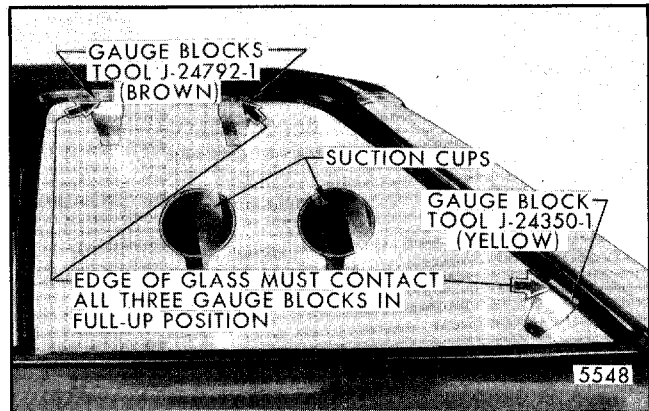

Fig. 5-113-Front Door Window - Fore and Aft Alignment - "A" Styles
5. Fore-Aft Alignment: Loosen window and install gauge block, tool J-24350-1 (yellow) or equivalent, into retainer as shown in Figure 5-113 with handle inboard. Make sure gauge block is fully engaged in retainer. Raise window until